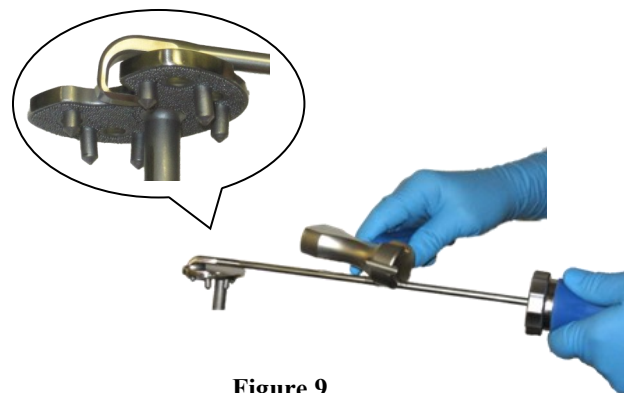

Figure 9
- The Retrograde Osteotomes are ideal for separating the posterior parts of the implant from the underlying bone. See Figure 9.